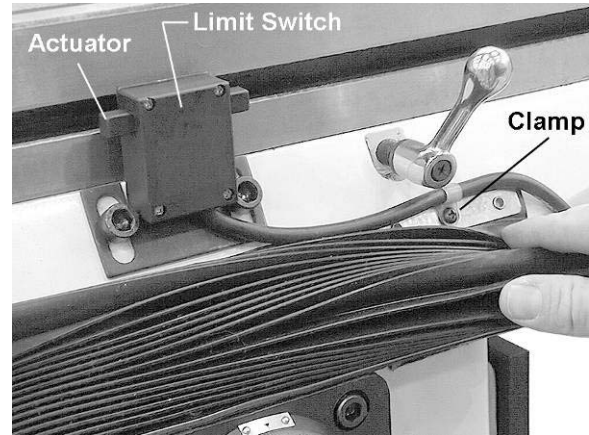

Figure 6
13. Place the limit switch over the holes and secure with two 3/8x1" socket head cap screws provided. See Figure 6. If the actuators are not symmetrical, grind them to obtain the proper position.
14. Secure limit switch cord using the provided clamp. Attach it to the right-hand side of chip scraper with the screw provided. See Figure 6.